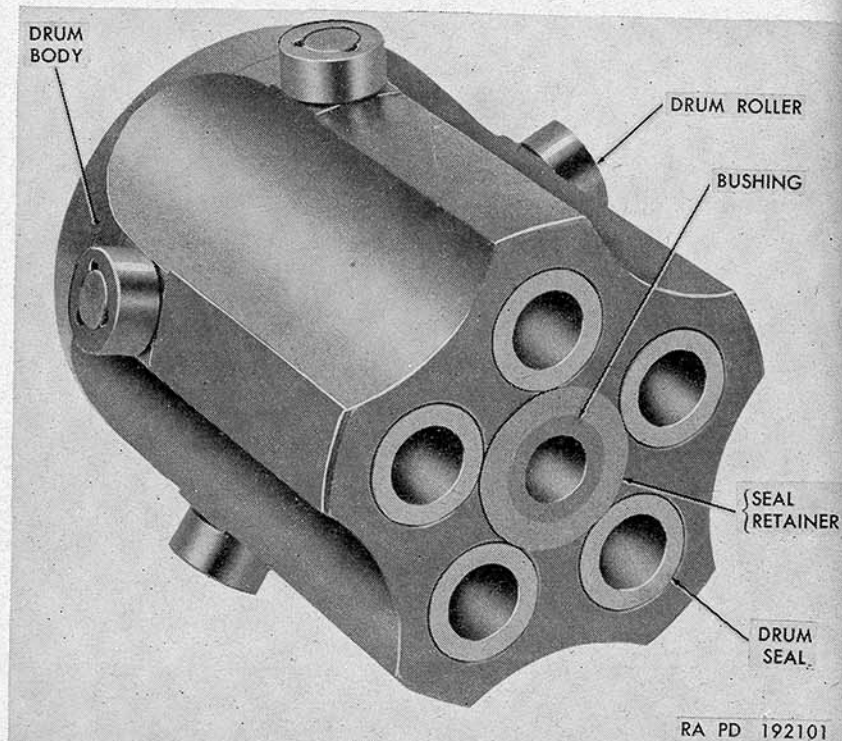

Figure 61. Drum assembly.
a. Remove seal retainer (fig. 61) which seats on the bushing in the forward end of the drum assembly.
b. Withdraw the five drum seals (figs. 61 and 62). If a drum seal should jam, notify field maintenance personnel.
d. Examine the seal retainer for deformation and cracking. When in place, the seal retainer must just contact the edge of the seal (fig. 61) to hold the seal in place.
b. Replace seal retainer over the projecting bushing on the forward face of the drum body (fig. 61).